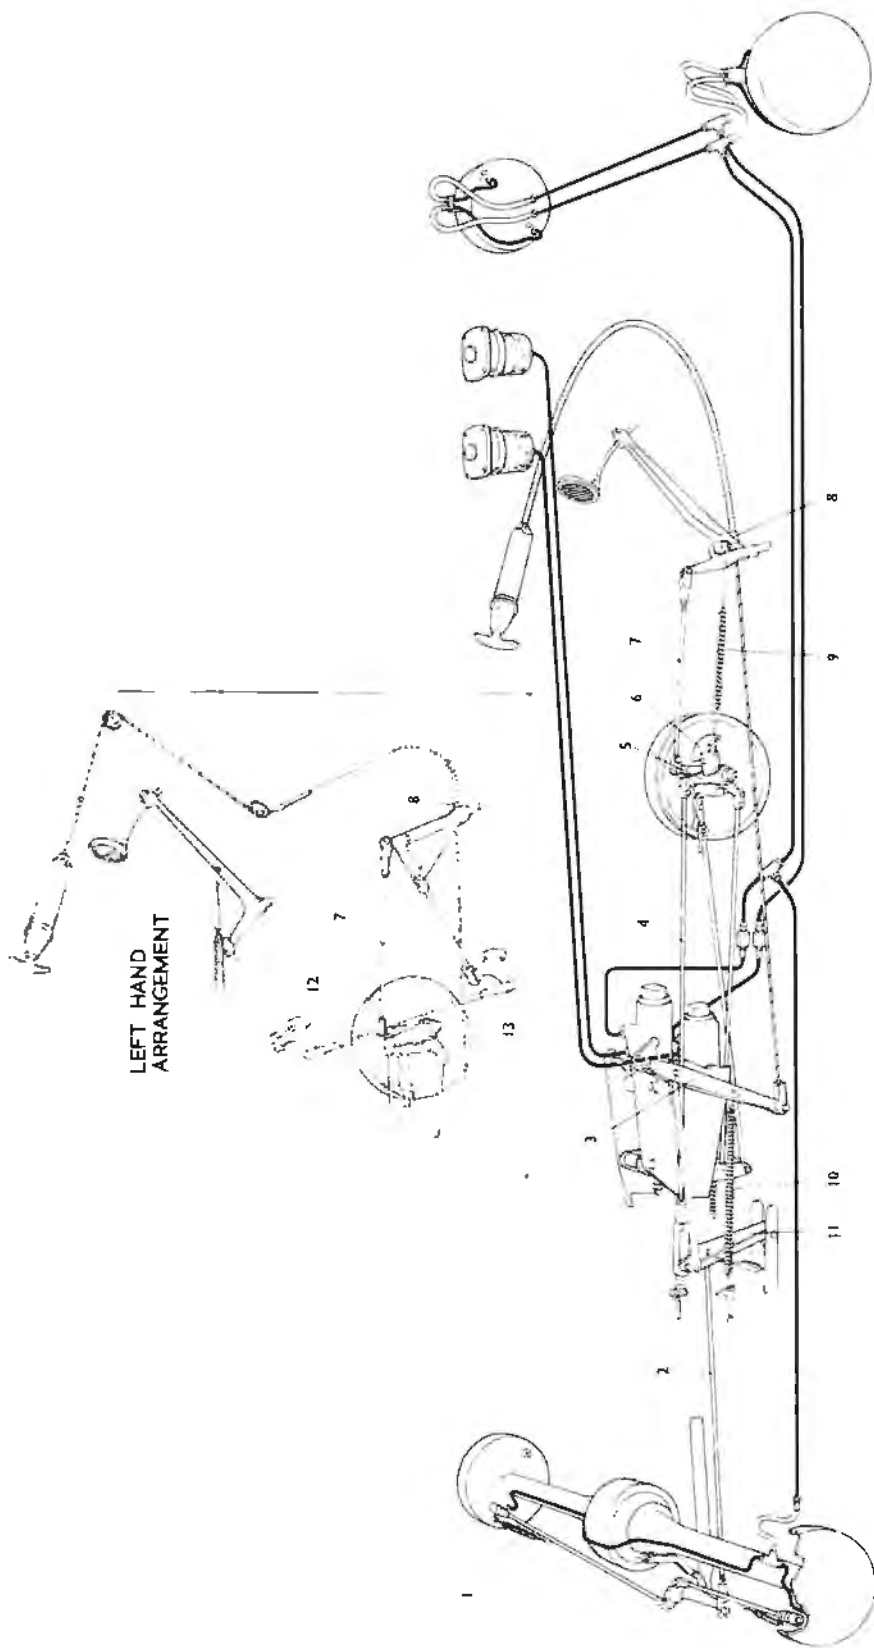

Fig. G1 Diagram - brake linkage
Figure G1 shows the brake linkage for a right-hand drive car with the arrangement fitted to left-hand drive cars shown inset. On **Phantom V cars** an extra relay lever is fitted between the intermediate linkage and the rear axle. The lever is fitted to a bracket welded to the right-hand rear member of the propeller shaft tunnel. The single rod (see 2, Fig. G1) fitted on **standard cars**, is divided into two rods on the **Phantom V**, the
A servo motor is mounted on the right-hand side of the gearbox and is driven at approximately one fifth of the propeller shaft speed. A pull-rod (see 7, Fig. G1) is operated by the brake pedal and is coupled to a lever on the servo motor shaft. The lever has inclined cams formed on the face of its boss which engage, through the medium of steel balls, with similar cams formed on the boss of a second lever (5). From the latter lever, rod (4) actuates the rear brakes through an intermediate lever which is pivoted on a bracket bolted to the crossmember of the frame and through rod (2) and the rear equaliser linkage, mounted on a bracket suspended from the rear axle.